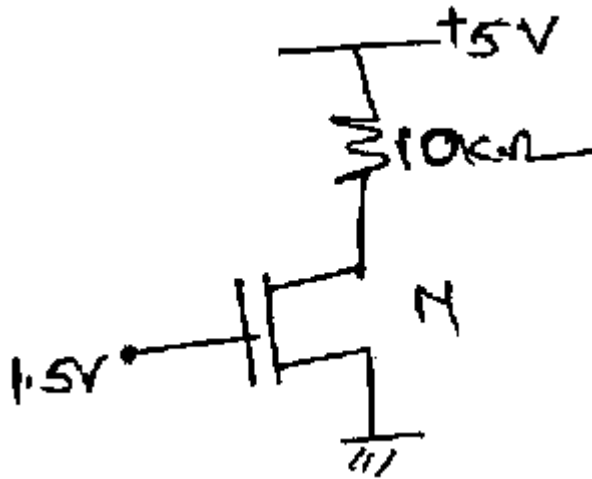

Figure 1
8. For the circuit shown in figure 1 calculate I_D and V_{Ds}